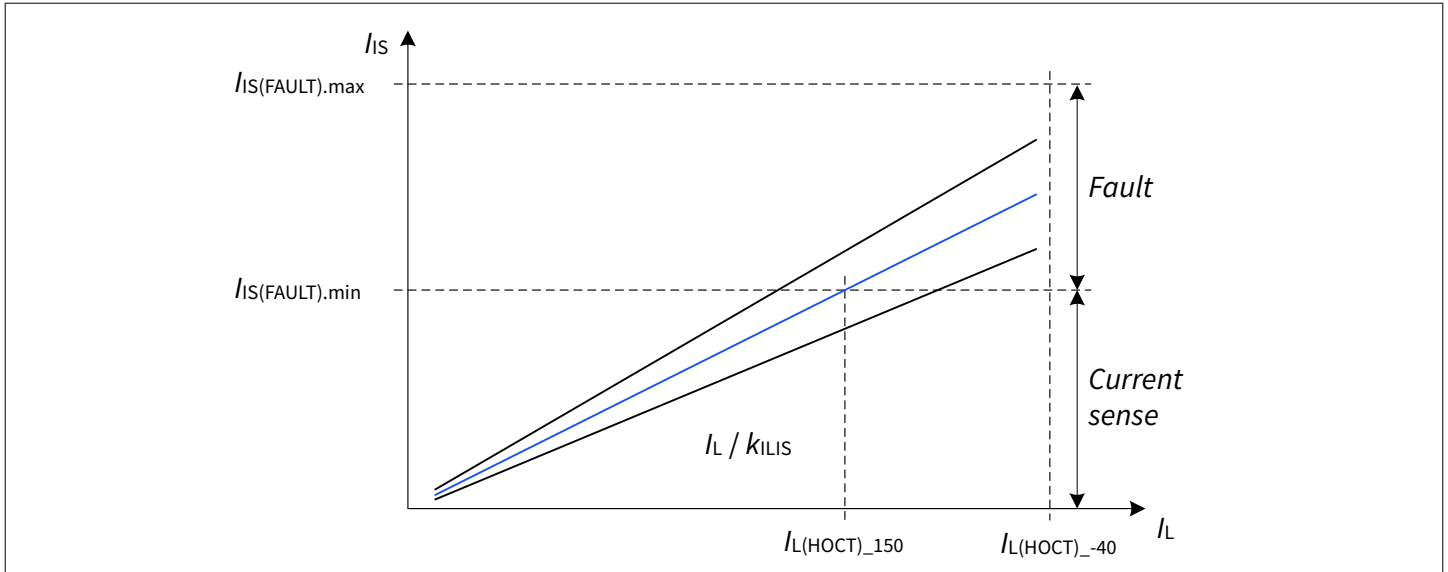

Figure 46 Current sense behavior - overview
- No fault (as described in Chapter 8.3) is present or was latched (see Figure 46 for more details)
Figure 46 shows the relation between $I_{IS} = I_L / k_{ILIS}$, $I_{IS(SAT)}$ and $I_{IS(FAULT)}$.